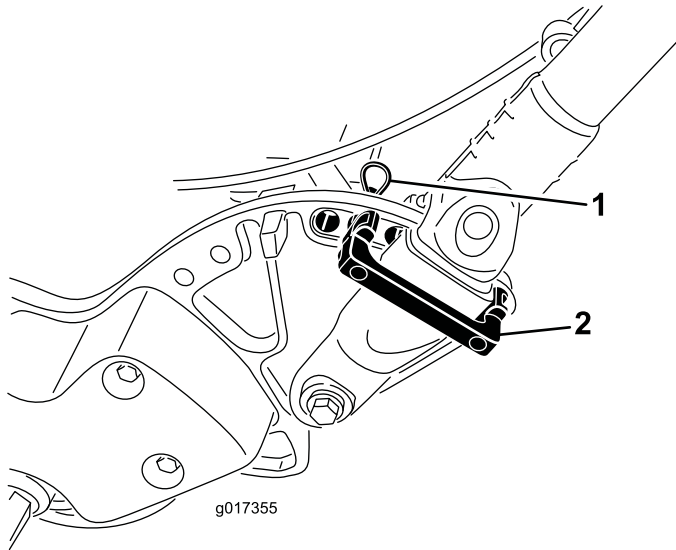

Figure 30
1. Remove the hairpin cotters from the handle retainers on each side of the mower (Figure 30).
2. While supporting the handle, remove the hairpin cotters from each side and pivot the handle to the desired operating position (Figure 30).